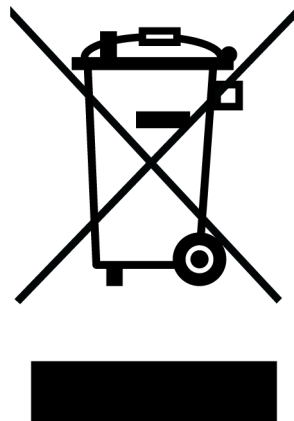

Figure 11 Crossed out 'wheelie bin' symbol
- marked correspondingly with the crossed out 'wheelie bin' logo (see Figure 11)